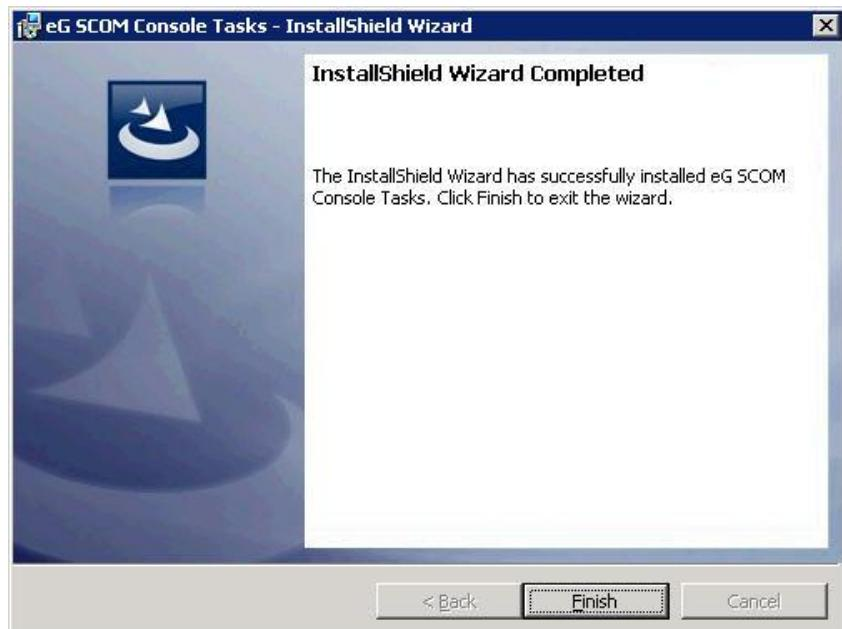

Figure 2.23: Completing the installation
- Upon completion of installation, click the **Finish** button in Figure 2.23.